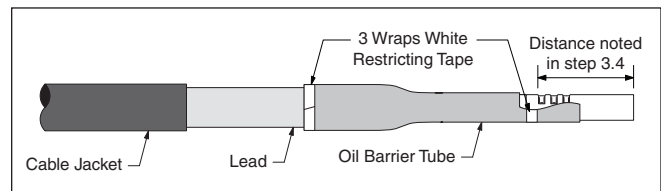

Figure 7
- 3.8 Apply three wraps of white restricting tape around the oil barrier tube at the end of the connector according to the distance noted in step 3.4, and around the edge of the tube at the lead end (Figure 7).